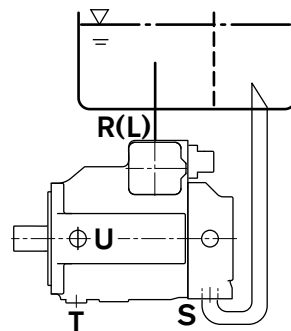

Fig. 5
b) Mounting below the reservoir Case drain port and port »S« must be piped (see fig. 5).